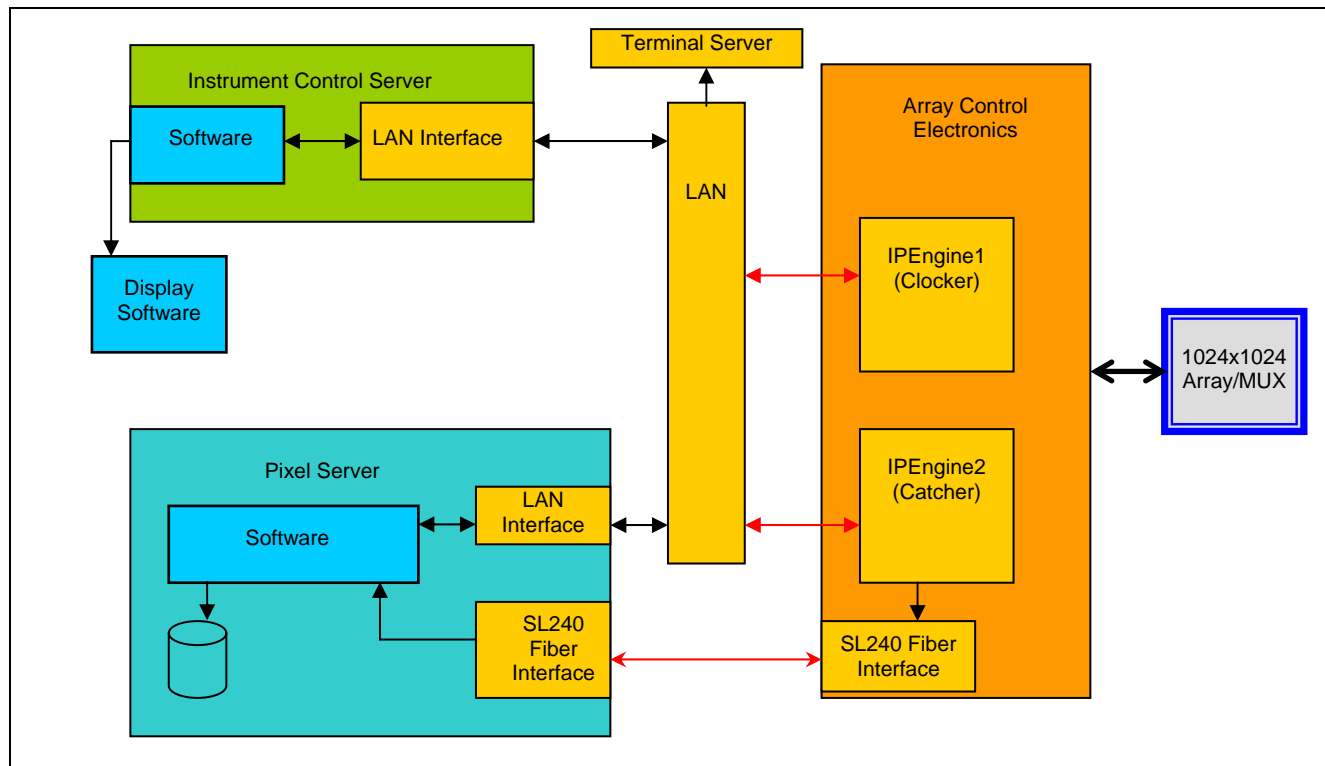

Figure 1 Block Diagram of the Array Control Electronics
For this discussion please see the block diagram of the Array Controller provided in Figure 1. The Array Controller hardware consists of an Instrument Control (IC) Server, a Pixel Server, Array Control Electronics, a Terminal Server (DigiPort), and an array. The Instrument Control Server is the main controller of the instrument. Software running in the IC Server drives all of the major functions of the Array Controller. In the Array Control Electronics the IPEngine1 (the hardware Clocker) drives clock signals to the array and the IPEngine2 (Catcher) prepares the raw data from the array for transmission over the fiber link to the Pixel Server. The Pixel Server assembles coherent images from the raw pixel data stream, can perform some image processing, and prepares the image for storage and viewing. The Terminal Server provides an Ethernet to Serial interface for mechanism control.